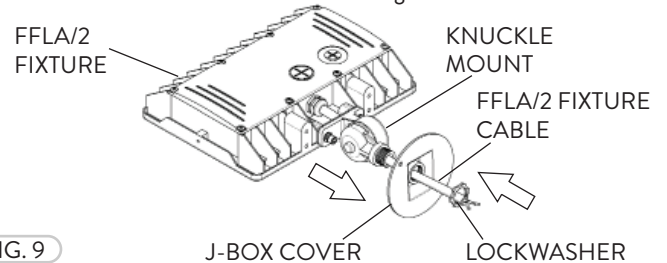

FIG. 9
- 2 The FFLA/2 Knuckle Mount can be mounted directly to a Junction Box. Install the fixture to a J-Box Cover with a conduit threaded opening. Fasten the J-Box Cover and lock in place with the Lockwasher included with the FFLA/2 (Fig. 9).